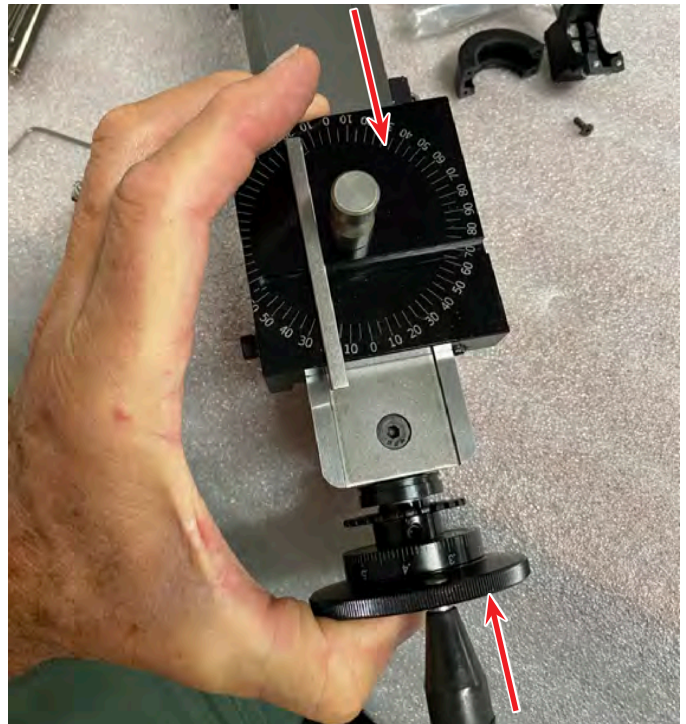

FIGURE 48
5. The handwheel, column thrust, and leadscrew assembly works the same way as the slide screw assembly. All of these parts are sandwiched between the leadscrew thread shoulder and the handwheel. Pull the column saddle towards the column thrust so the 1/4" washer is pressed hard against the column thrust. Now place the handwheel onto the leadscrew shaft with the set screw facing up. Pull the handwheel and the column saddle towards each other (see Figure 48).
NOTE: If you over tighten this screw, it will compress the column thrust assembly parts even more and may result in too much compression of these parts. After you have tightened the center screw, turn the handwheel CW and CCW and feel for increased resistance. If this screw is too tight, the handwheel will be hard to turn. If so, back out the center screw a bit. If it doesn't loosen up, you will need to remove the center screw and do the previous steps, 5 and 6 again (Figures 48 and 49 respectively).